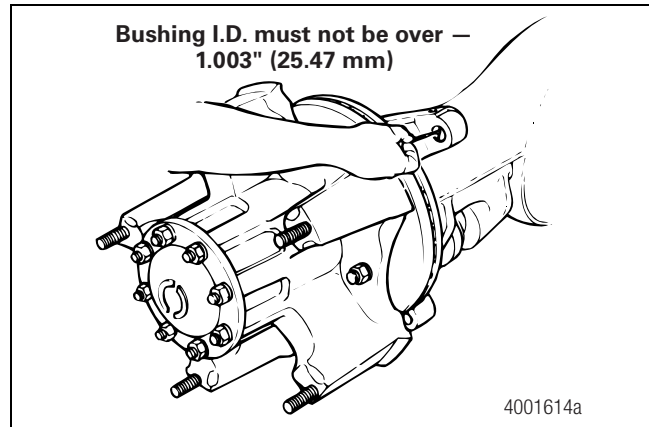

Figure 9.1
2. Measure the inner diameter of the bushings at three locations. The inner diameter must not exceed 1.003-inches (25.47 mm). Figure 9.1.